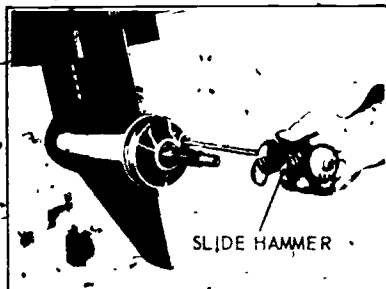

FIGURE 4
- L. Using a slide hammer with a hooked end, pull bearing housing from gearcase (Figure 4)